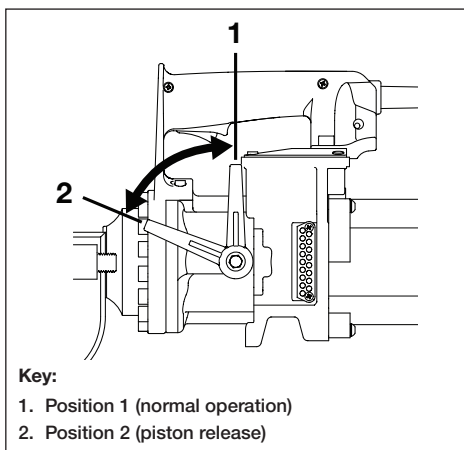

Figure 5, Piston Release Lever
See Figure 5.
3. Be sure that the piston release lever is turned fully clockwise to position 1. See Figure 5.